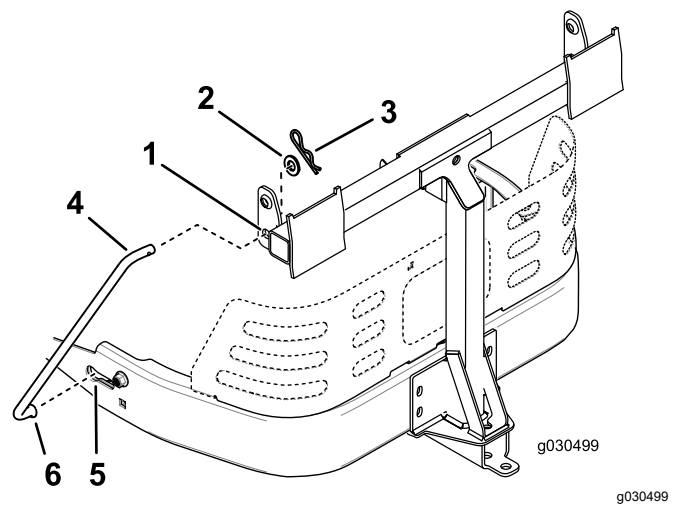

Figure 18
4. Install a bent, flared end of a rod into the keyed slot in the left side of the machine frame and move the rod rearward to seat it in the frame (Figure 18).
5. Insert the bent ends of the rod into the attachment mount as shown in Figure 18 and secure the end of each rod with a washer and hairpin cotter.